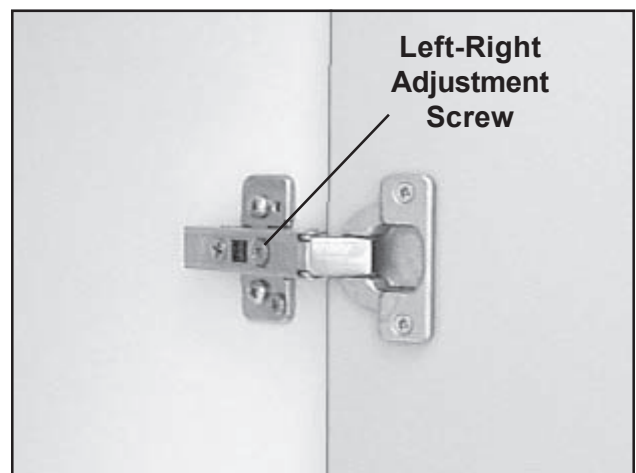

Figure 11. Door Left-Right Adjustment Screw
5. With a Phillips screwdriver, turn the left-right adjustment screw (Figure 11) clockwise to move the door to the right; counterclockwise to move the door to the left.